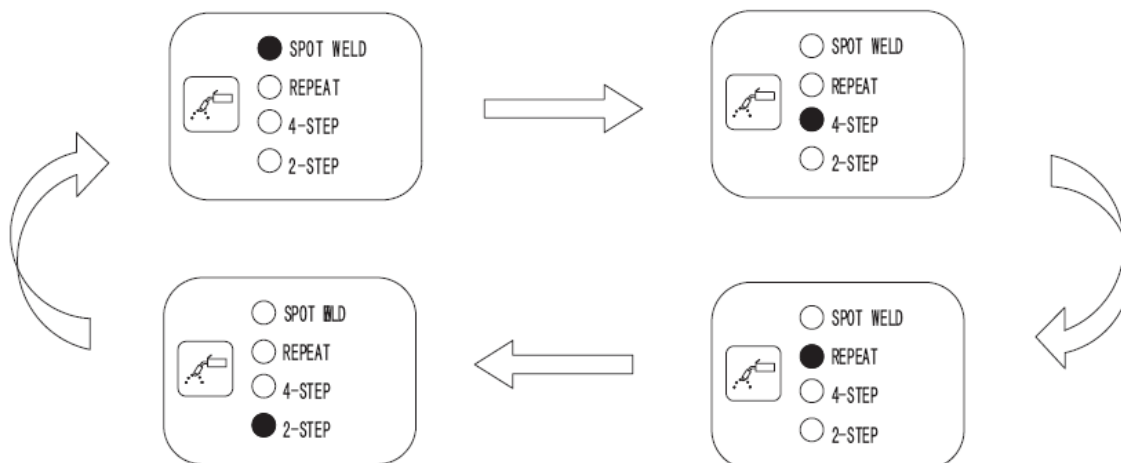

Fig. 5-3-3: Spot weld, repeat, 4-step and 2-step selection
③
- In TIG mode, press the button to select spot weld, repeat, 4-step and 2-step, the relevant indicator will light up (Fig. 5-3-3).